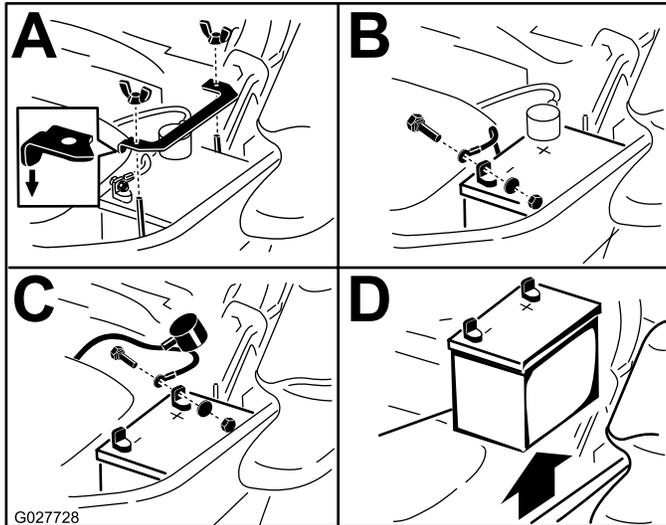

Figure 61
3. First disconnect the negative battery cable (black) from the negative (-) battery terminal (Figure 61).
4. Slide the red terminal boot off the positive (red) battery terminal and remove the positive (+) battery cable (Figure 61).
5. Remove the wing nut securing the battery clamp (Figure 61).
6. Remove the clamp (Figure 61).
1. Position battery in the tray with the terminal posts opposite from the hydraulic tank (Figure 61).
4. Secure the cables with 2 bolts, 2 washers, and 2 locknuts (Figure 61).
6. Install the clamp and secure it with the wing nut (Figure 61).